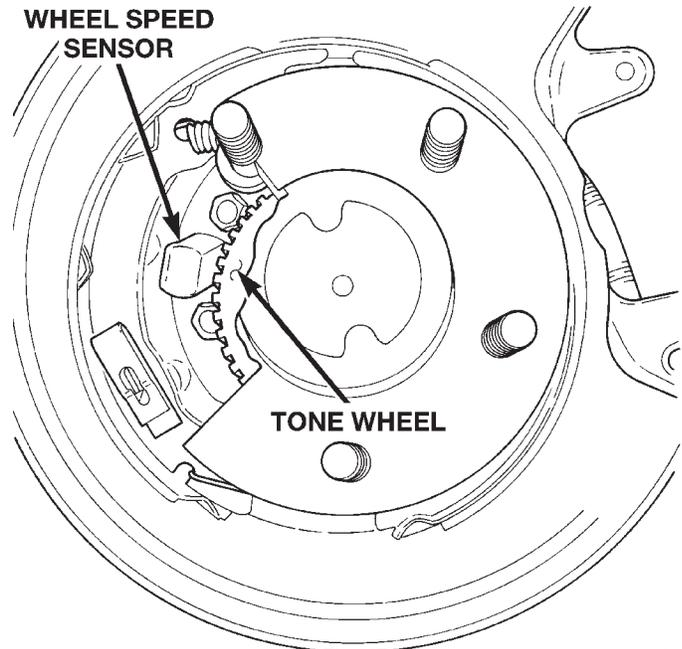

Fig. 11 Air Gap On Rear Sensor
- (1) Insert sensor through splash shield hole.
- (2) Apply Mopar Lock N' Seal or Loctite 242 to original sensor bolt. Use new bolt if original is worn or damaged.
- (3) Install sensor bolt finger tight only at this time.
- (4) If **original sensor** is being installed or adjusted, remove any remaining pieces of cardboard spacer from sensor pickup face. Set air gap to 0.92 to 1.275 mm (0.036 to 0.05 in.) with feeler gauge (Fig. 11). Tighten sensor bolt to 14 N·m (11 ft. lbs.).
- (5) If **new sensor** is being installed, push cardboard spacer on sensor face against tone ring. Then tighten sensor bolt to 14 N·m (11 ft. lbs.). Correct air gap will be established as tone ring rotates and peels spacer off sensor face.
- (6) Route sensor wires to rear seat area.
- (7) Feed sensor wires through floorpan access hole and seat sensor grommets in floorpan.
- (8) Secure sensor wire in brackets and in retainers on rear brake lines. Verify that sensor wire is secure and clear of rotating components.
- (9) Install rotor, caliper and wheel, lower vehicle.
- (10) Fold rear seat and carpet forward for access to sensor wires and connectors.
- (11) Connect sensor wires to harness connectors.
- (12) Reposition carpet and fold rear seat down.